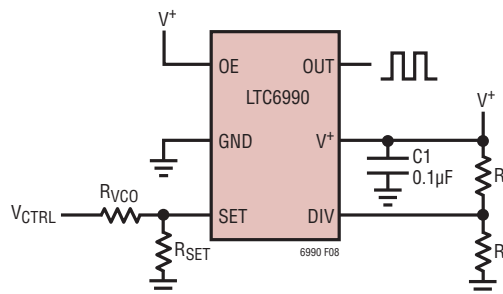
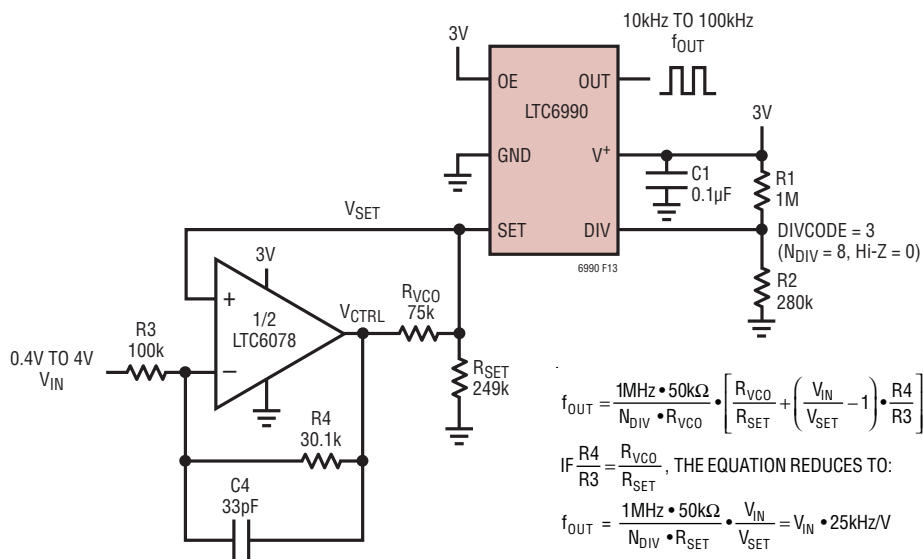

Figure 11. Voltage Controlled Oscillator
Figure 13. VCO with Reduced ΔV_{SET} Sensitivity
Operating the LTC6990 as a voltage-controlled oscillator in its simplest form is achieved with one additional resistor. As shown in Figure 11, voltage V_{CTRL} sources/sinks a current through R_{VCO} to vary the I_{SET} current, which in turn modulates the output frequency as described in Equation (2).
For wide frequency range applications, the non-inverting VCO circuit shown in Figure 13 is preferred because the maximum frequency error occurs when the frequency is highest, keeping the relative error (in percent) much smaller.
Depending on the application's requirements, the non-inverting VCO circuit in Figure 13 may be preferred for this wide of a frequency variation as its maximum inaccuracy due to V_{SET} error is only $\pm 9\%$ and can be reduced to only $\pm 3\%$ with a small change to the voltage tuning range specification.
Figure 13 shows a VCO that reduces the effect of ΔV_{SET} by adding an op-amp to make V_{CTRL} dependent on V_{SET} . This circuit also has a positive transfer function (the output frequency increases as V_{IN} increases). Furthermore, for positive V_{IN} voltages, this circuit places the greatest absolute frequency error at the highest output frequency. Compared to the simple VCO circuit of Figure 11, the absolute frequency error is unchanged. However, with
Figure 13 shows a design similar to the previous design example where the V_{MIN} voltage is now specified to be 0.4V. This satisfies the $V_{MAX}/V_{MIN} \geq f_{MAX}/f_{MIN}$ condition and the design assures that the output frequency error due to V_{SET} variation is only $\pm 3\%$.